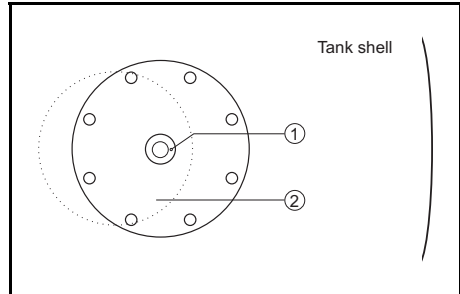

Figure 7.11 Position of antenna assembly on the roof (manhole) nozzle
The position of the Antenna Unit is indicated by line (2) in figure 7.11.